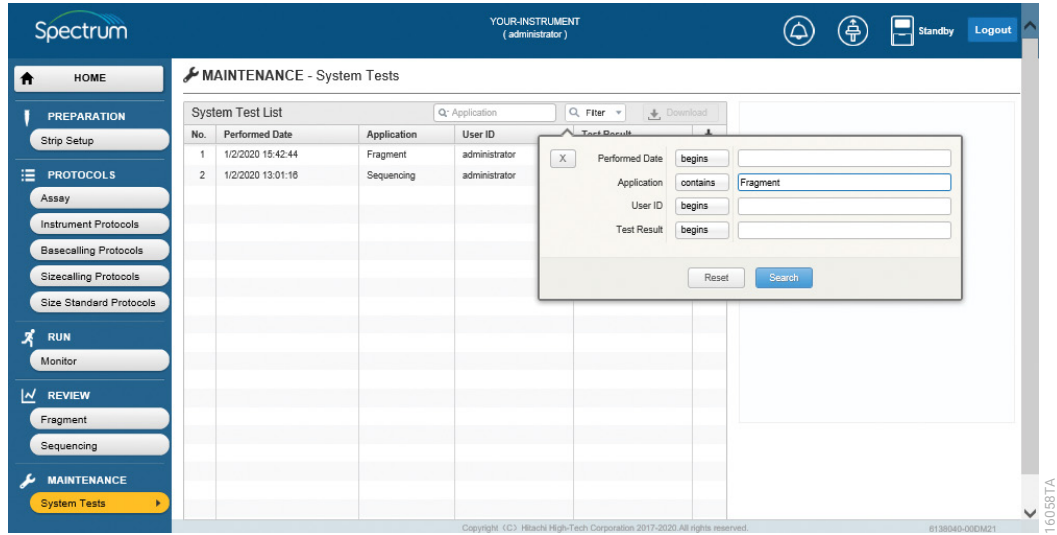

Figure 110. System Test List search filter option selection.
- After selecting the appropriate filter for search terms in the field being search (i.e., Performed Date, Application, User ID or Test Results), type the desired search term in the adjacent box and select **Search** (Figure 110). Alternatively, select **Reset** to exit.